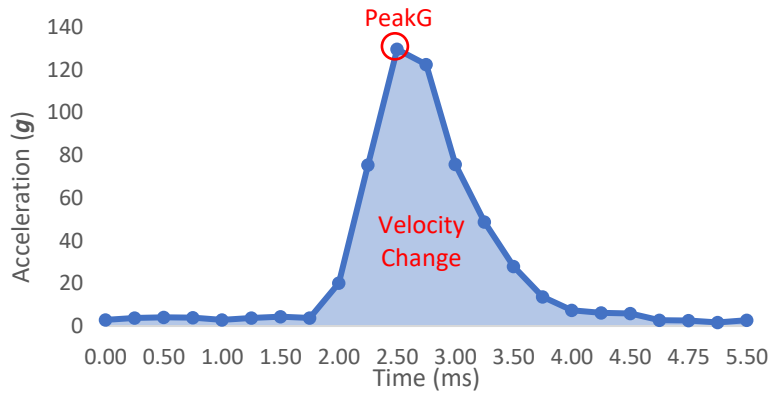

Figure 1 Illustration of PeakG and Velocity Change.
During an impact, the acceleration change measured by the Berry Impact Recorder typically follows a bell curve shape. Two metrics are commonly used to quantify the impact: PeakG and Velocity Change (VC). PeakG refers to the maximum value of acceleration during the impact (Figure 1). Velocity Change represents the area under the acceleration curve, calculated by integrating the acceleration over time, and signifies the difference between the initial and final velocities during an impact (Figure 1).